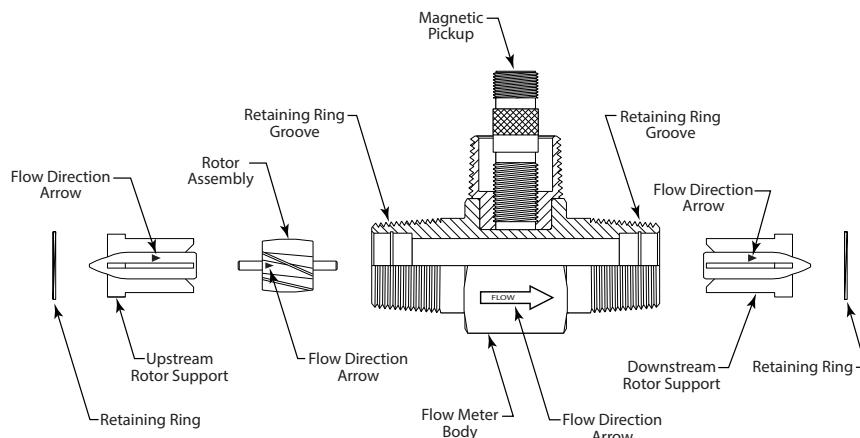
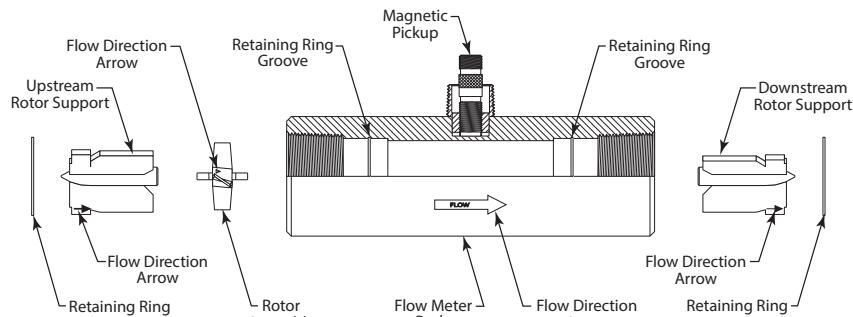
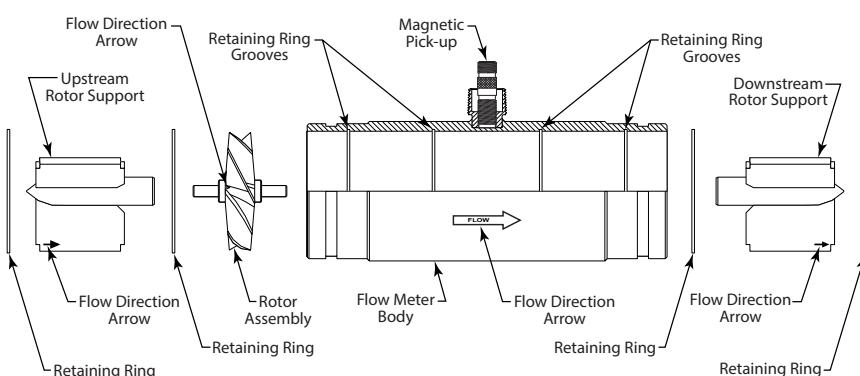

Figure 7: Component positions for B110-375...B111-115 and B111-121
Figure 8: Component positions for B111-120 and B111-130
Figure 9: Component positions for B111-140 and B111-200
- Refer to *Figure 7*, *Figure 8* and *Figure 9* for relative positions of repair kit components.
NOTE: 4 in. and larger meters have two retaining rings (one on either side of the rotor) that require removal before the rotor can be removed (see *Figure 9*).
Before reassembly, note that an arrow is cast or engraved on each component. The arrow indicates the primary flow direction. When reassembled, the arrowheads must point in the direction of the fluid flow. The arrows must also be oriented in the up position on both rotor supports. The magnetic pickup side of the body signifies the up position. Performance of repair kit calibration is in the up position. Reinstallation of the repair kit in the up position provides continuation of accurate measurements. Figure 7, Figure 8, and Figure 9 show the proper alignment and orientation of the repair kits.
NOTE: 4 in. and larger meters have a retaining ring at both ends of the rotor (see Figure 9).